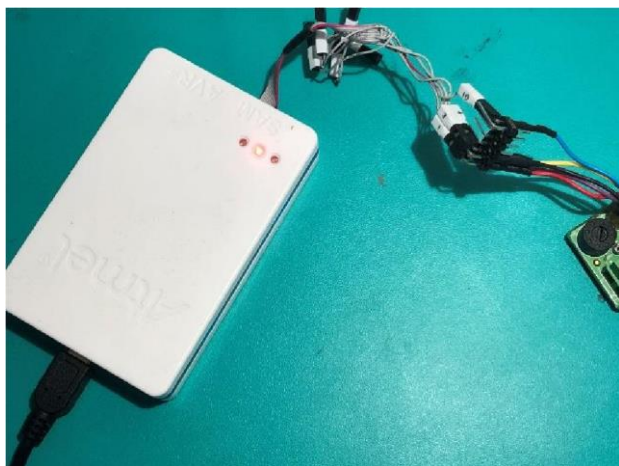

Figure 5.1
1. Connect one end of Atmel ICE to PC using Micro-B cable and the other end to programming adapter which has five different coloured wires-Red, Purple, Black, Yellow and Blue as follows and the same is shown in the figure 5.1.